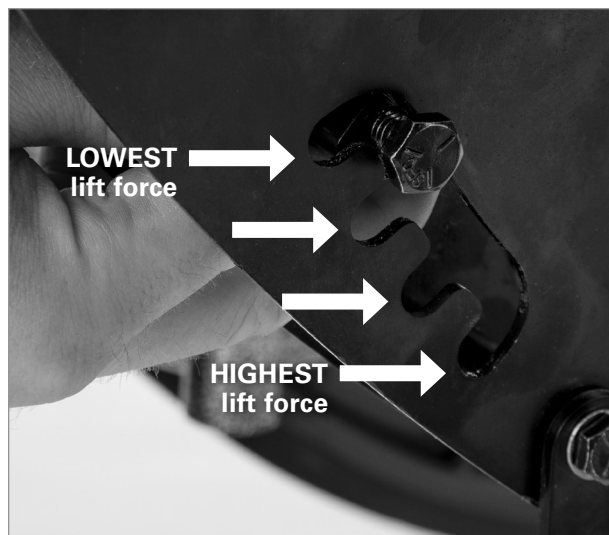

Figure 20
- c. Lift gently on the back of the plastic lift seat and then guide the adjustment block into one of the desired force settings, as shown. *(figure 20)*